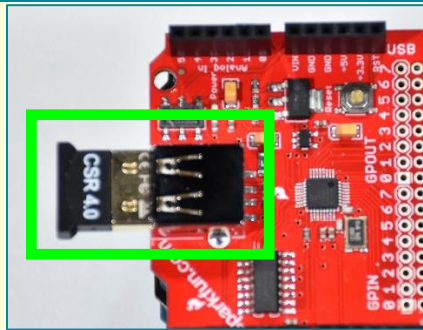

Figure 4-14. Inserting the Bluetooth dongle in the USB port of the SparkFun USB Host Shield.
2. Insert the Bluetooth dongle in the USB port of the SparkFun USB Host Shield as shown in Figure 4-14.